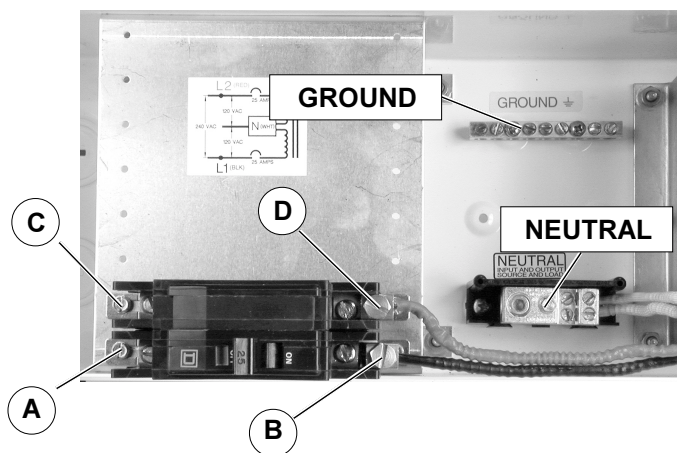

Figure 6
- All 240 volt AC (input or output) wires connect to the left-hand side of the breaker, points A and C (Figures 6 and 7).
- All 120 volt AC wires connect to the service crimps located on the breaker, points B and D (Figures 6 and 7).
Figures 6 and 8 identify the wiring points in the T240 Autotransformer: